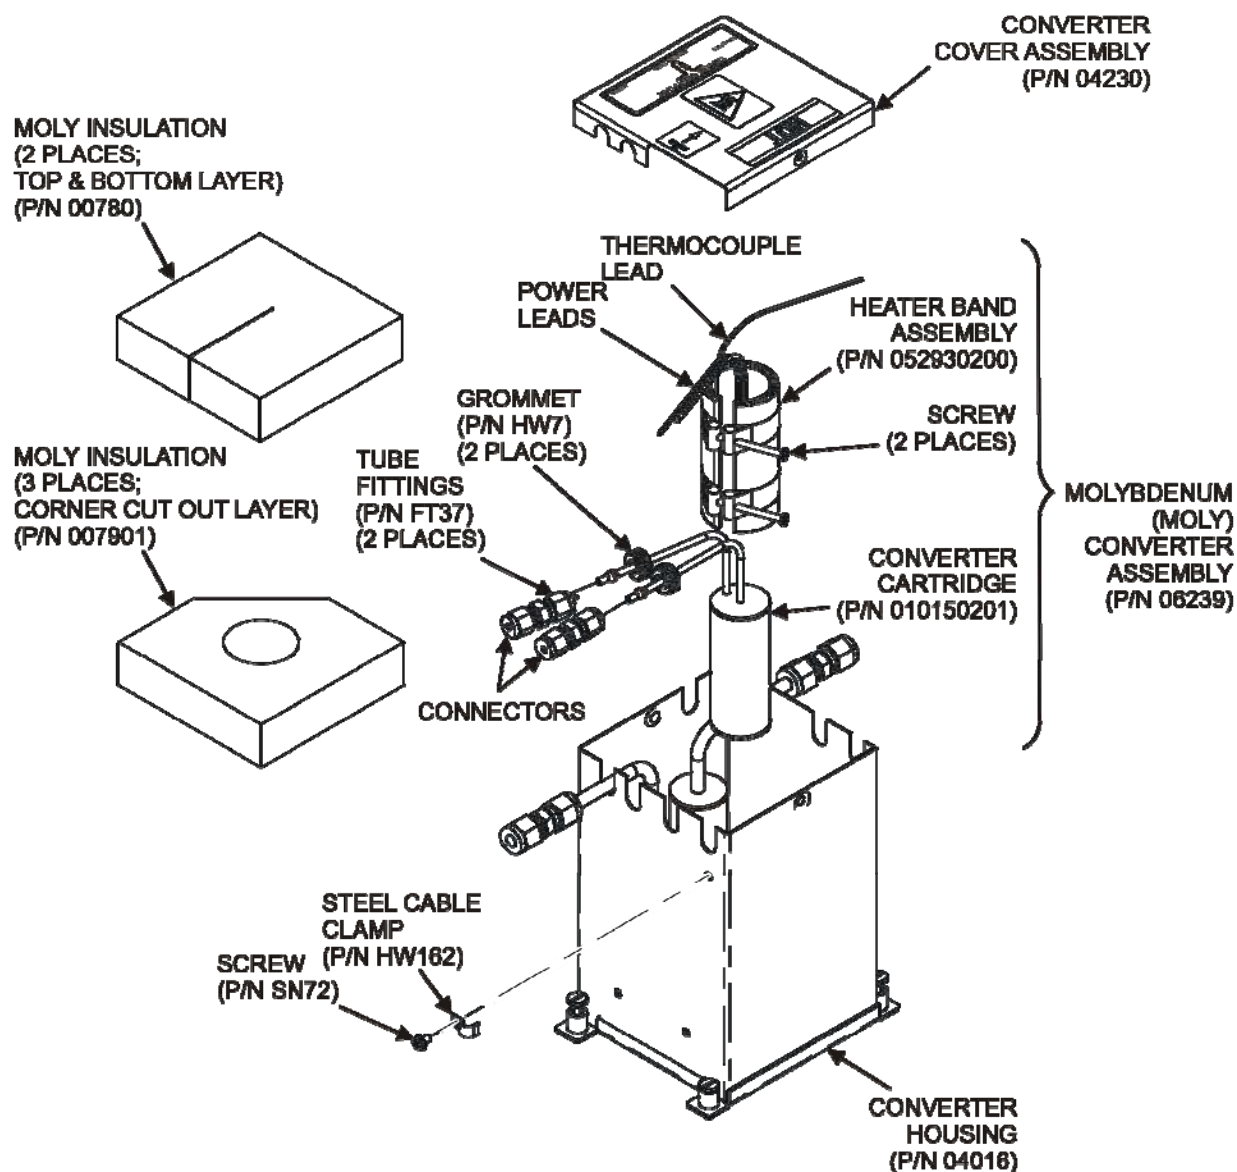

Figure 11-5: NO₂ Converter Assembly
The NO₂ converter is located in the center of the instrument, Figure 3-5 for the location, and Figure 11-5 for the assembly.
2. Remove the analyzer cover and locate the reaction cell (Figure 11-5 and Figure 11-6).